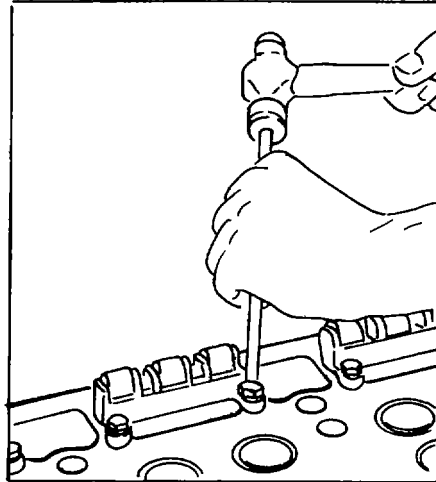

Figure 3-84. Adjusting Cam Follower Guide.
- (2) If there is insufficient clearance, loosen guide bolts slightly and tap each corner of the guide with a brass rod (figure 3-84). Then, retighten bolts to specified torque 12-15 lb-ft (16-20 Nm).